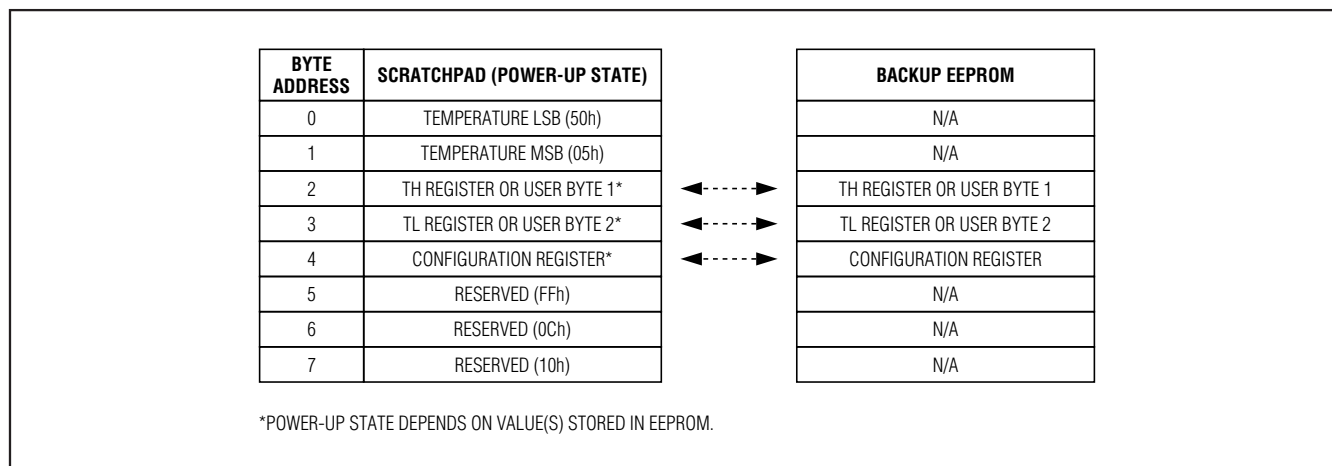

Figure 4. Memory Map
The memory map of the DS28EA00 is shown in Figure 4. It consists of an 8-byte scratchpad and 3 bytes of backup EEPROM. The first 2 bytes form the Temperature Readout register, which is updated after a temperature conversion and is read only. The next 3 bytes are user-writable; they contain the Temperature High (TH) and the Temperature Low (TL) Alarm register and a Configuration register. The remaining 3 bytes are “reserved.” They